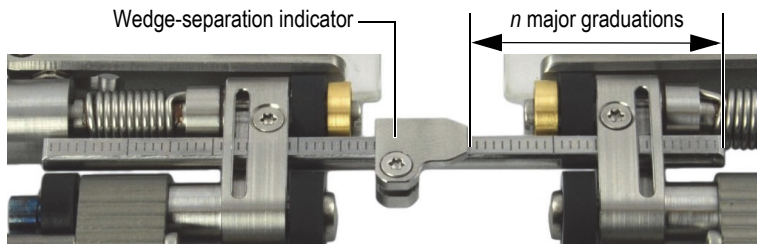

Figure 2-25 Placing the wedge-separation indicator
3. Slide the wedge-separation indicator(s) on the crossbar(s) so that the right-hand side of the wedge-separation indicator(s) is aligned with the required (n^{th}) major graduation from the right-hand end of the crossbar(s) [see Figure 2-25 on page 52].